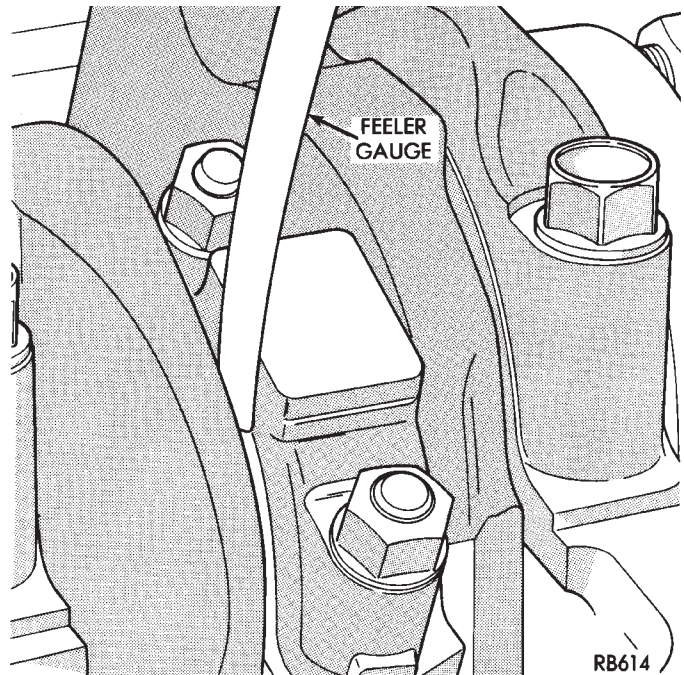

Fig. 19 Checking Connecting Rod Side Clearance
(5) Using a feeler gauge, check connecting rod side clearance (Fig. 19). Refer to connecting rod specifications (Fig. 20).